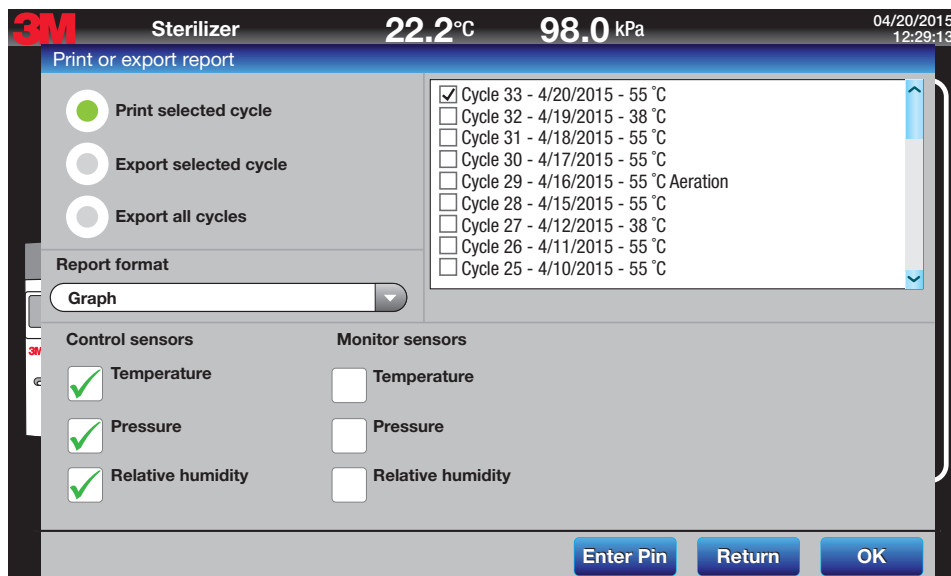

Figure 11.
Figure 11 outlines the options for 3M™ Steri-Vac™ Sterilizer/Aerator GS Series Cycle Reports.
The GS Series sterilizer has control sensors for temperature, %RH, and pressure that provide information to the control embedded software. In addition, the sterilizer has a duplicate set of monitoring sensors that provide independent data and performance monitoring during critical sterilization stages for temperature, %RH, and pressure. The sterilizer defaults to report only on the control sensors. Monitoring sensors can be selected for reporting in the Cycle Report options screen in Figure 11.
There are three (3) Cycle Report formats. The desired format can be selected in the Cycle Report options screen (Figure 11). Each of the Cycle Report formats is described in Chapter 12 in Table 5.